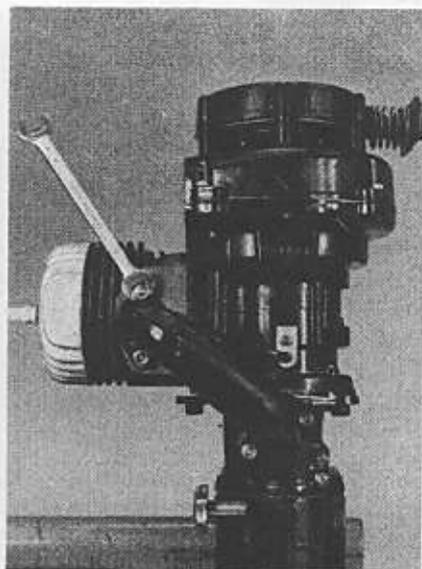

Fig. 14
2. Remove the exhaust elbow (Figs. 14 and 15).
2. Smontare la marmitta (Fig. 14 e 15)